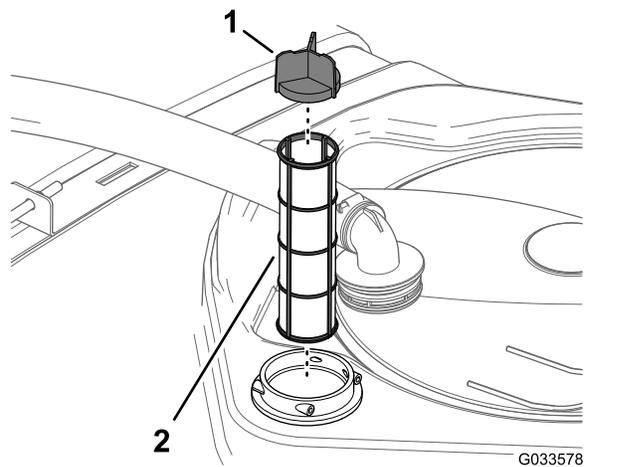

Figure 29
- Pull the suction strainer out of the filter housing in the tank (Figure 29).